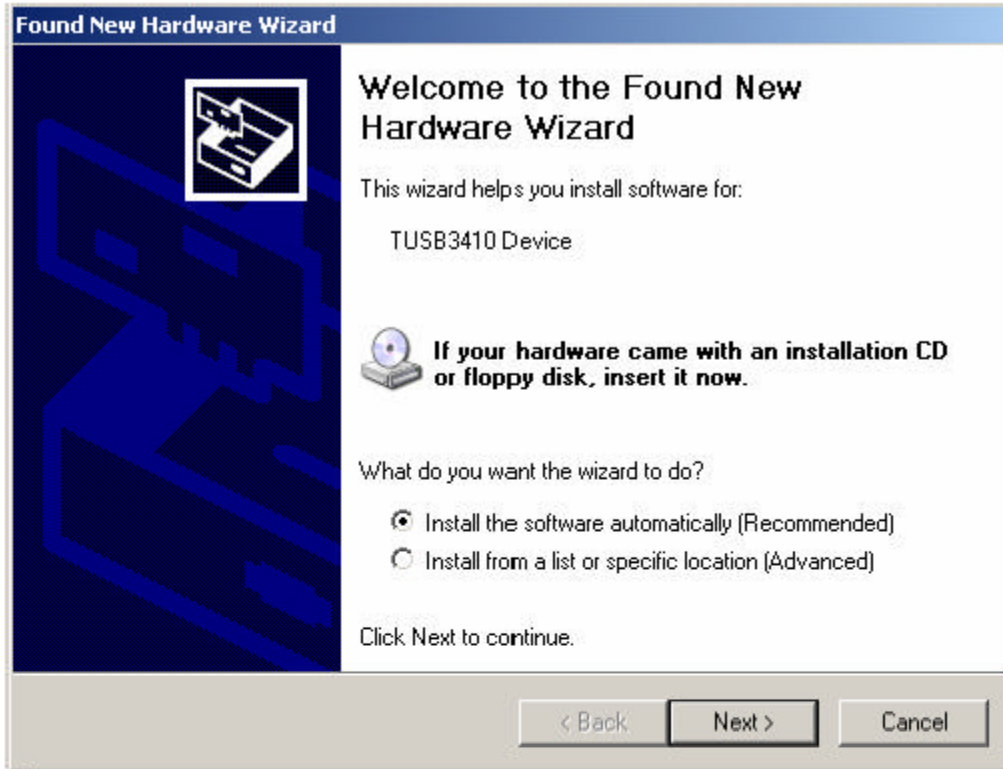

Figure 6 - Found New Hardware (“TUSB3410 Device”)
**STEP 2.** Connect the USB-to-serial hardware to the PC. Windows displays the Found New Hardware dialog box (“TUSB3410 device”). Select the “Install the software automatically” option and click on “Next” in Figure 6.